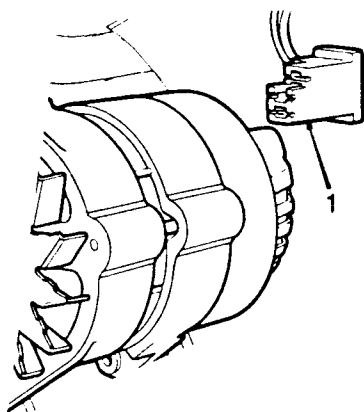
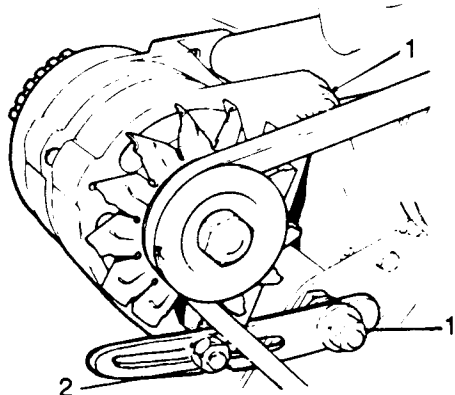

Fig O5.1
Fig O5.2
- (2) Refer to Fig O5.1. Disconnect the leads from the alternator.
- (3) Refer to Fig O5.2. Slacken the alternator fixings (1) and (2). Pivot the alternator inwards towards the engine and remove the drive belt.
- (4) Remove all fixings and lift out the alternator.
- (1) Refer to Fig O5.2. Fit the alternator into position and secure with finger tight fixings (1) and (2).
- (2) Fit the drive belt and adjust belt tension (see Sub-section O4, Chapter 3).
- (3) Refer to Fig O5.1. Connect the leads (1) to the alternator.
- (4) Reconnect the battery.